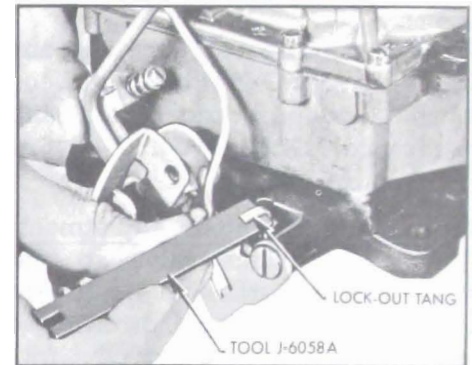

Figure 3-64—Adjusting Secondary Lock-Out
6. If clearance between tang and lock-out step is not correct, bend tang as required to obtain this clearance using Tool J-6058A. See Figure 3-64.